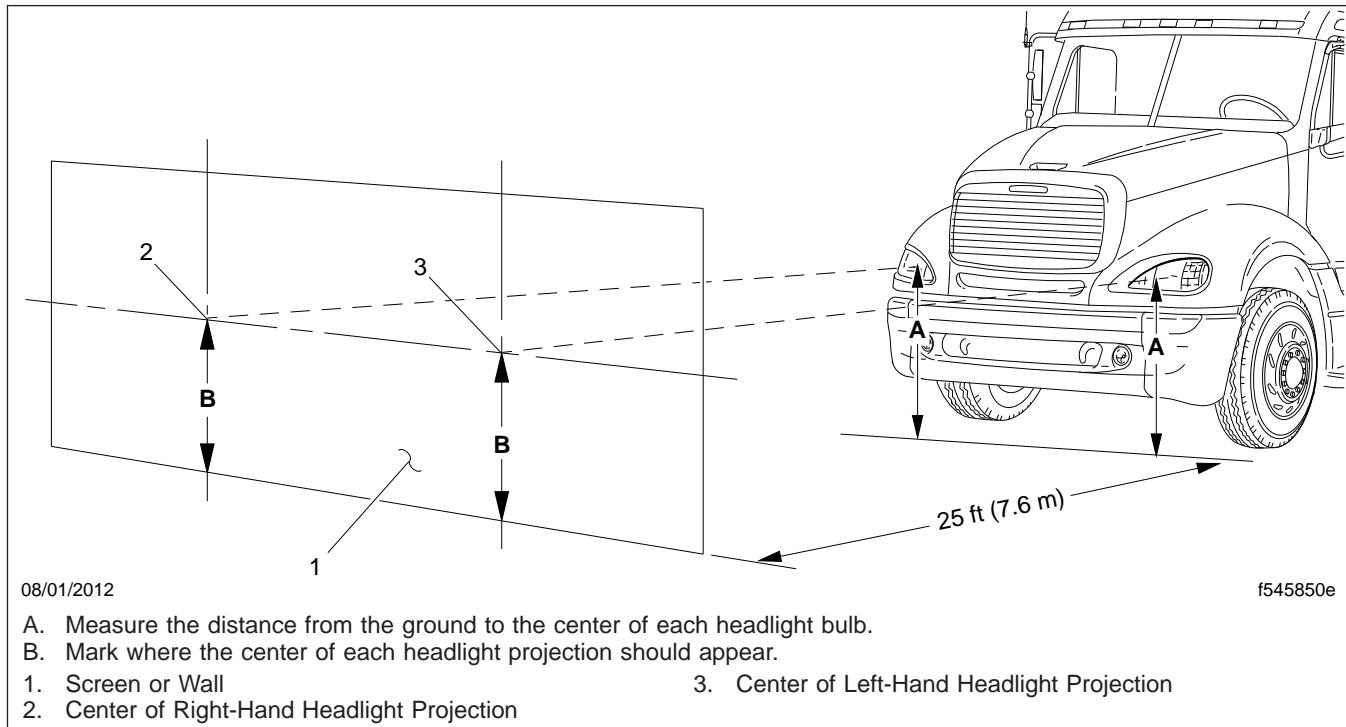

Fig. 14.1, Headlight Aiming Screen/Wall
2. Each headlight has a small, clear height adjusting dot. Measure the distance from the ground to the center of each height adjusting dot. (Fig. 14.1, Item A). Note those distances.
3. Mark the vertical distances found in step 2 on the screen or wall, directly in front of the headlights. These marks represent the desired locations of each headlight bulb center in the following steps. See Fig. 14.1, Items 2 and 3.